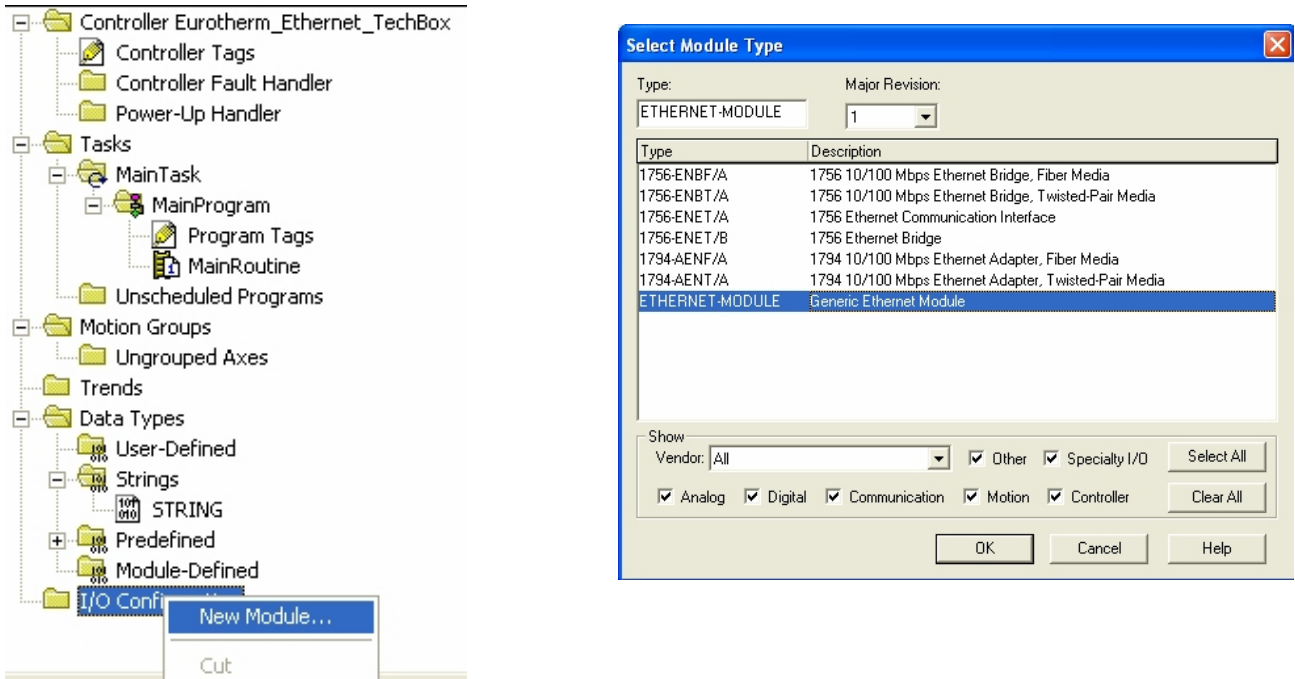

Figure 11. Generic Ethernet Module Select
- Right click on the Ethernet Interface Module, select New Module. This screen will allow the selection of the Generic Ethernet Module. Refer to Figure 11.